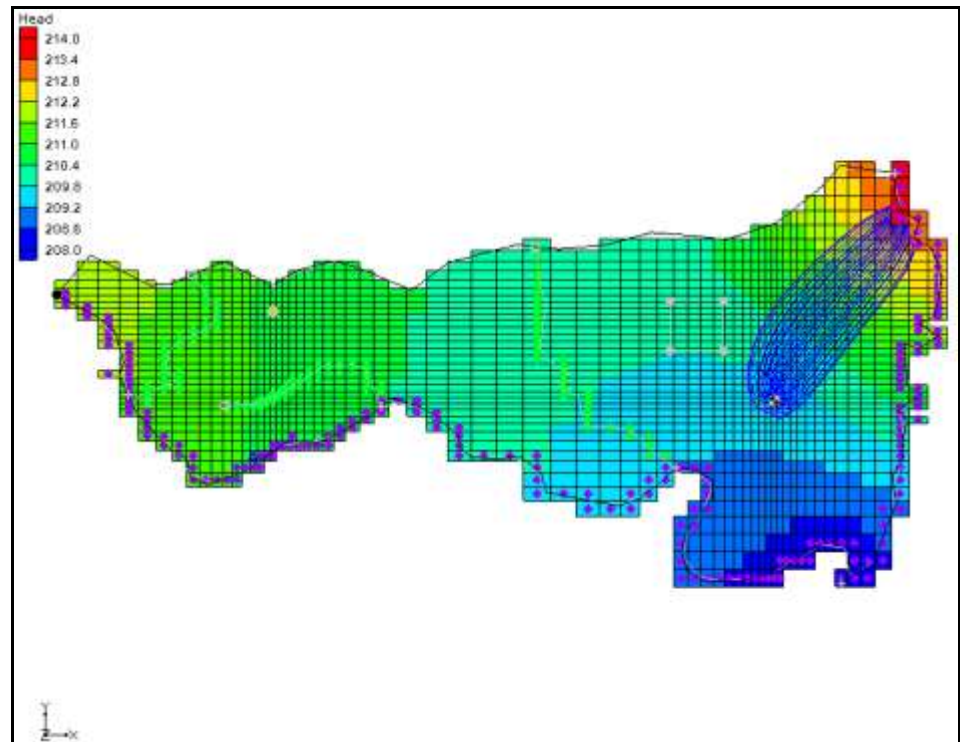

Figure 2 After west well pathlines and particles are deleted
2. **Frame**  the project. The Graphics Window will appear as in Figure 2.